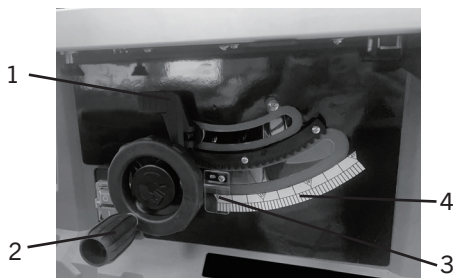

FIG. 18
1. Turn the blade height adjustment wheel (2) (Fig.18) counterclockwise to raise the blade or clockwise to lower the blade.
1. Unlock the bevel angle lock/release lever (1) (Fig.18) by pulling the lever all the way to the right.
2. Move the blade height adjustment wheel (2) to the right to adjust the blade bevel angle, use the bevel tilt angle indicator (3) and angle scale (4) as reference.
3. Once the desired bevel angle is achieved, lock the bevel angle/ lock release lever (1) by pushing the lever all the way to the left.
2. Unlock the bevel angle lock/release lever (1) (Fig.18) by pulling the lever all the way to the right. Move the blade height adjustment wheel handle (2) (Fig.18) until the blade is set at a perfect 90° to the square. Lock the bevel angle lock/release lever.